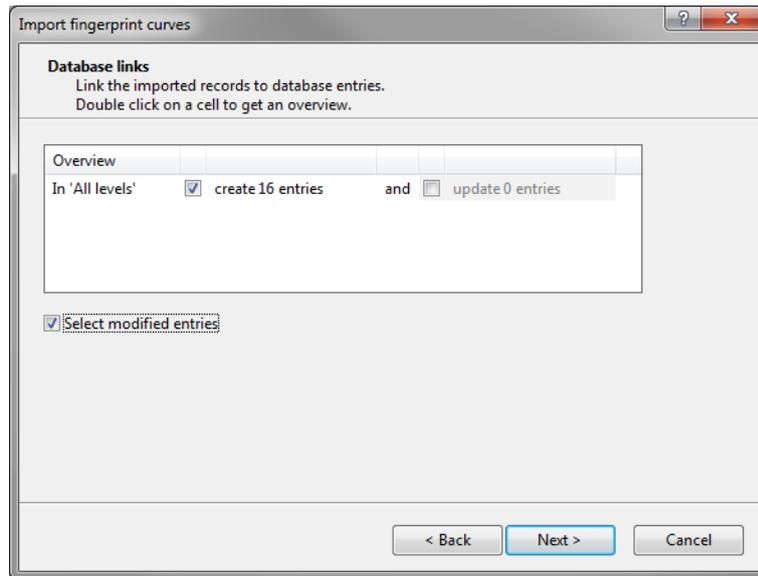

Figure 9: Database links.
21. Press *<Next>* to confirm the creation of new entries (see Figure 9).